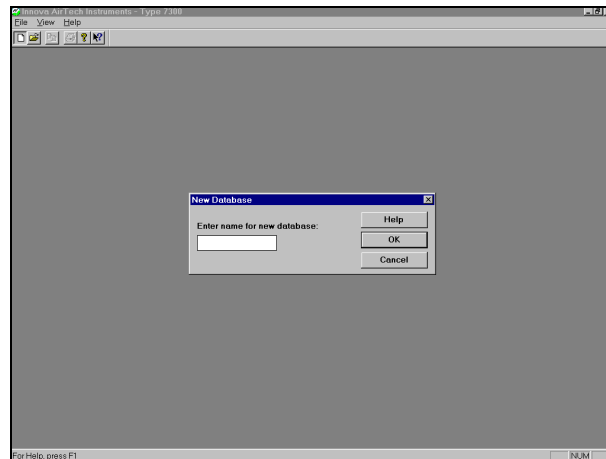

Fig 4.1 The New Database dialogue
1. Pull down the **File** menu. Click on **New**. The New Database dialogue will be displayed, Fig.4.1.